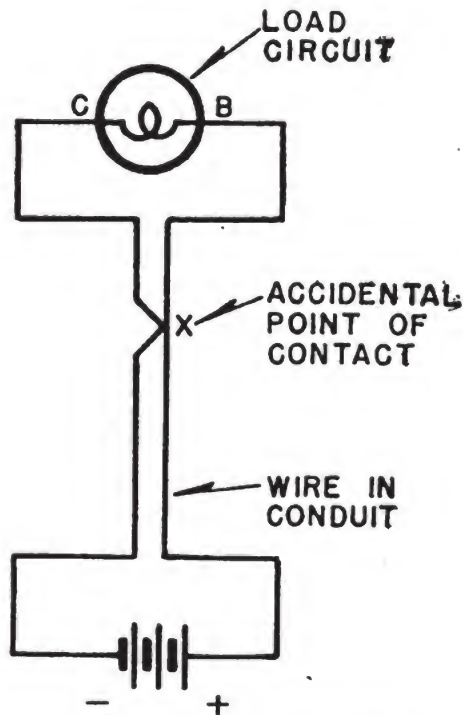

Figure 61.—Short circuit.
In figure 61, the circuit normally has only one path for current. This path is, of course, the load circuit itself. If the wires touch at (X), then two paths for current exist. One is through the load circuit ($+$, B , D , $-$). The other is through the short ($+$, X , $-$).